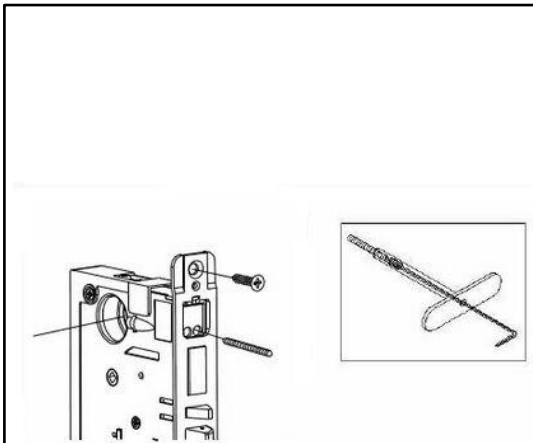

Figure D14
- A more secure way; fix the cylinder in place by using the fixing-screw tool kit. Use the L-shaped Allen key to lock the headless fixing screw (cylinder screw is turned upside down) to the T-shaped tool as illustrated in Figure D14. Using the T-tool, screw the fixing screw in place as shown earlier to fix the cylinder in place. Make sure that the cylinder fixing screw is tightened in the cylinder. Release the T-tool from the fixing screw by holding the T-tool rigid while turning the Allen key counter-clockwise until the Allen key is released from the screw; then unscrew the T-tool.
12. After installation of the cylinder, fix for ANSI (DA) and ANSI (DB) the face plate to the lock case after installation of the cylinder.